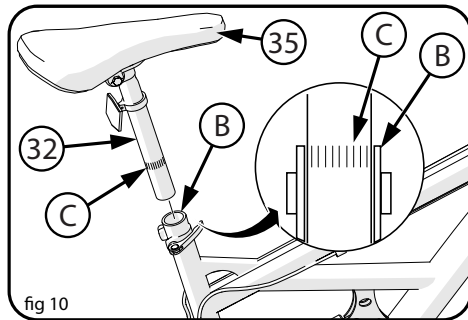

fig 10
- Point the Seat (35) forward and put the Seat Post (32) into the Seat Tube (B) (figs 10, 11).
**WARNING:** To prevent the seat coming loose and possible loss of control, the "MIN-IN" (minimum insertion) mark (C) on the seat post must be below the top of the Seat Tube (B).